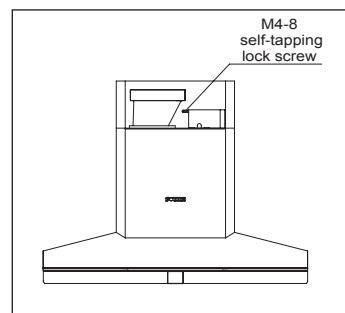

Figure 4
11. Using two people, hang the range hood on the machine hook and use the horizontal ruler to keep it horizontal. Fix the range hood and the main machine hook with a M4\*8 screw as shown in Figure 4.